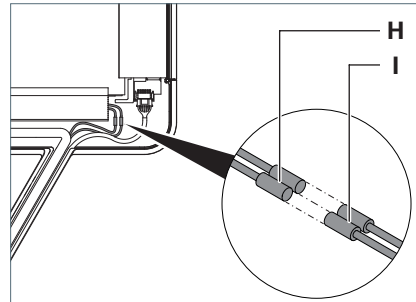

Fig. 5: Connecting the luminaire head, part 1.
- ▶ Connect the two connectors **H** with the sockets **I** in the luminaire head, see Fig. 5.